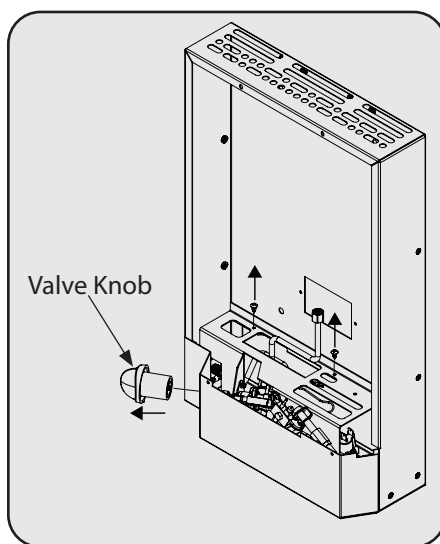

Figure 10
1. Remove (2) screws connecting the control bracket to the main body of the heater. See Figure 10.